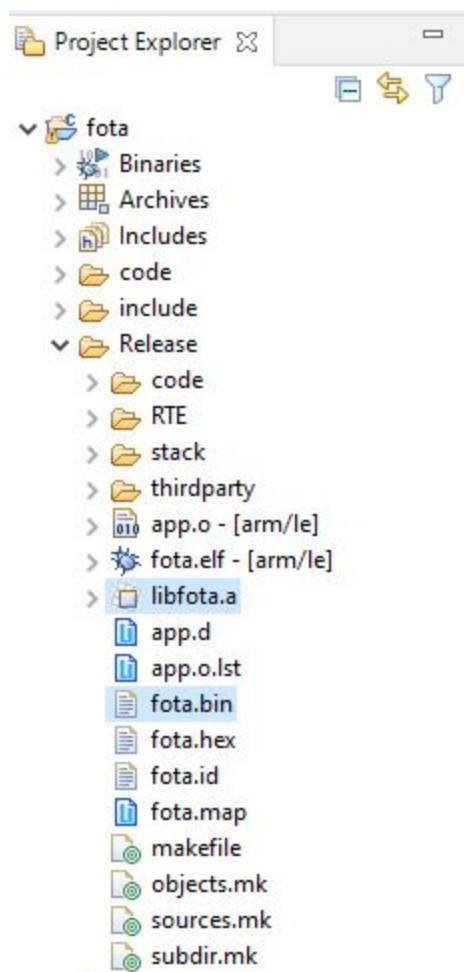

Figure 14. Building the Project
3. Build the project. After building successfully, *libfota.a* and *fota.bin* are generated under the *Debug* or *Release* folder, as shown in the figure "Building the Project" (Figure 14).